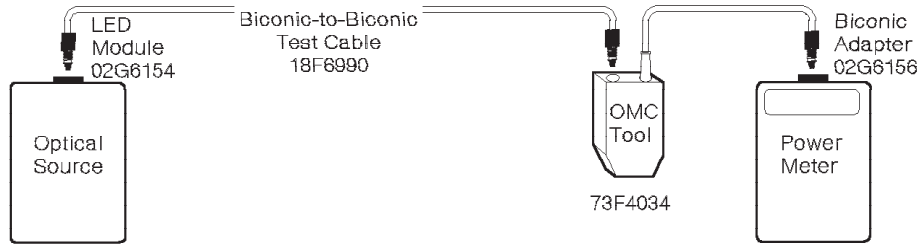

Figure 3-9. Obtaining **P0** for a Multimode Link
5. Attach one end of a biconic-to-biconic test cable to the optical source; then attach the other end to the receptacle on the OMC tool (see Figure 3-9 on page 3-29).